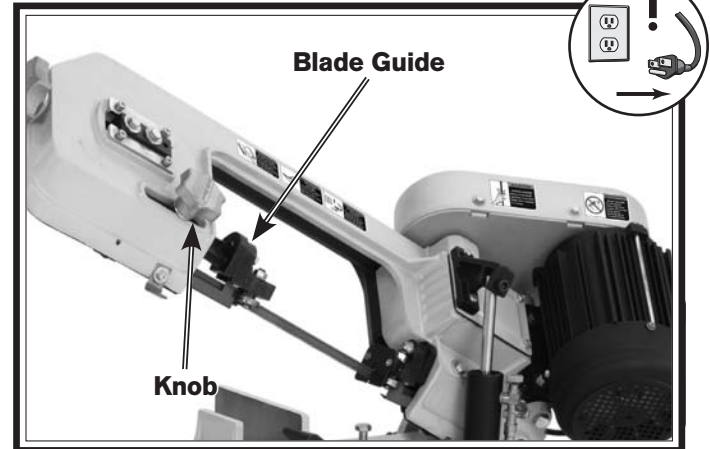

Figure 42. Blade guides.
2. Loosen the knob shown in Figure 42 and slide the blade guide to within $\frac{1}{2}$ " of the workpiece, then re-tighten the knob.